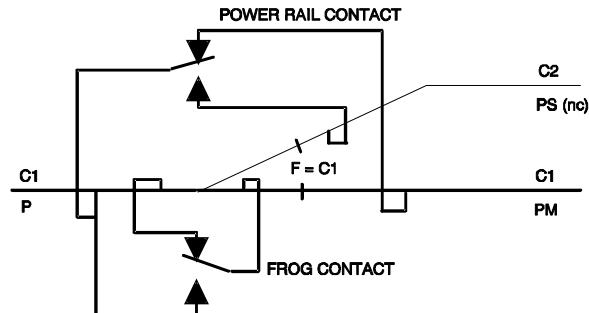

Figure 7-6 Power Routing With Straight Stock Rail Common
Just for completeness, we'll show the same switch wired with the straight stock rail as the power rail, and the curved stock rail as the common rail. In Figure 7-6, the common rails are connected to two separate detectors (C1 and C2). We assume that "P" is being fed by a cab select switch, and is routed by the upper contact to the power rail (PM) in the main line block beyond the switch.